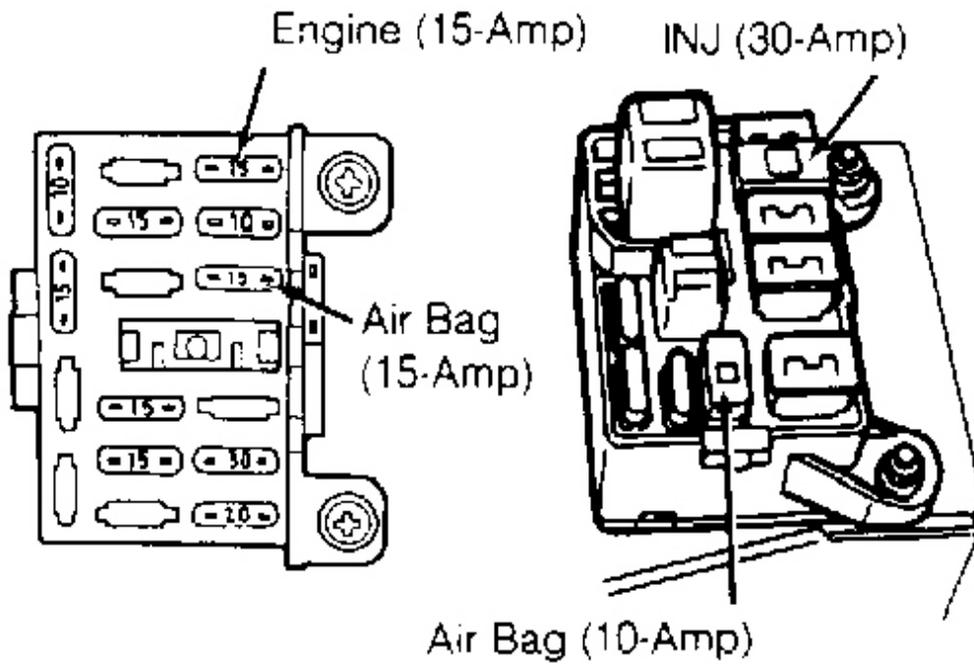
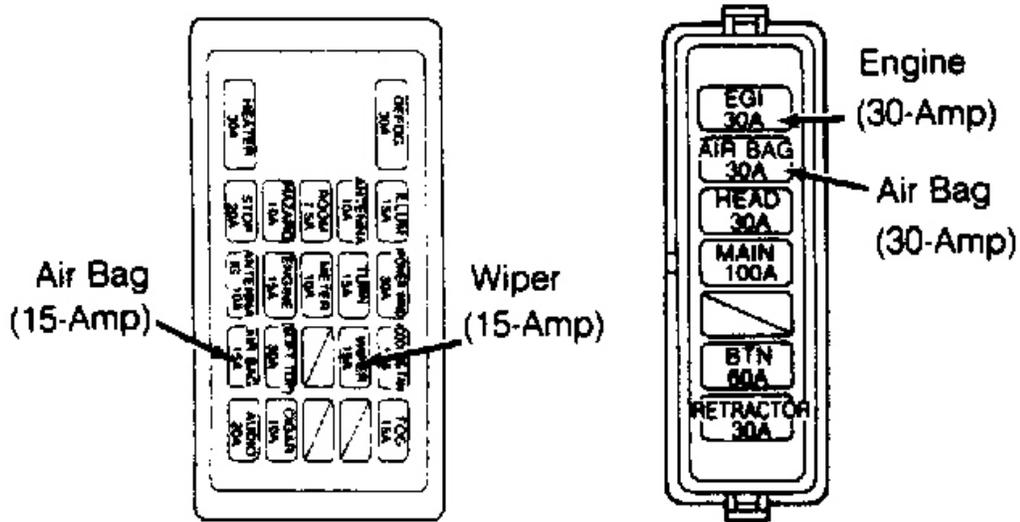

Fig. 6: Identifying Fuses & Relays (Miata)
Fig. 7: Identifying Fuses & Relays (RX7)
1. Measure battery voltage. If voltage is less than 9 volts, charge battery. If battery voltage is okay, check fuses/relays in order given in FUSE/RELAY LOCATION table. See **Fig. 6** or **Fig. 7**.